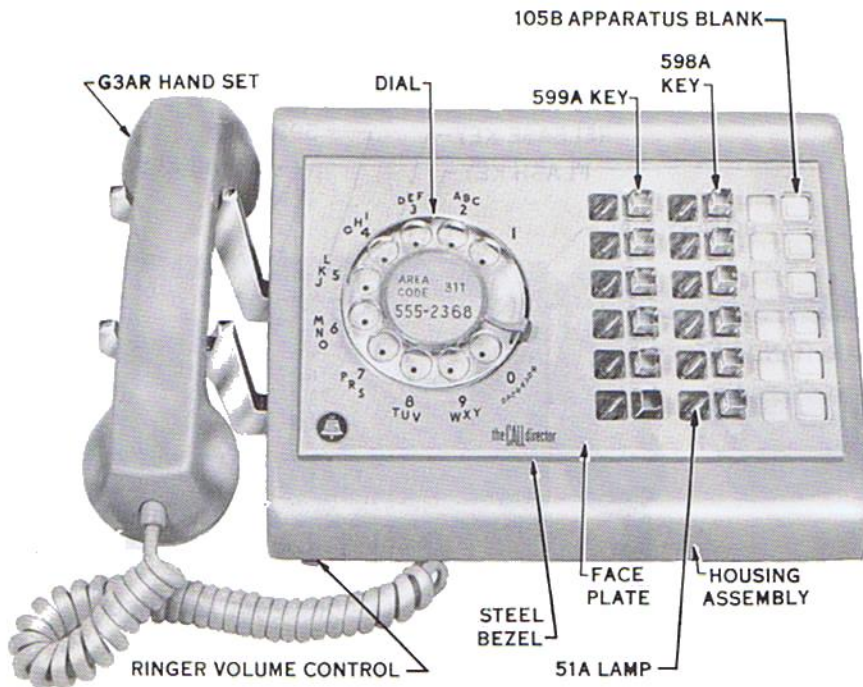

Fig. 3 - 630-Type Telephone Set
- (2) Limited use (Fig. 3 and 4).